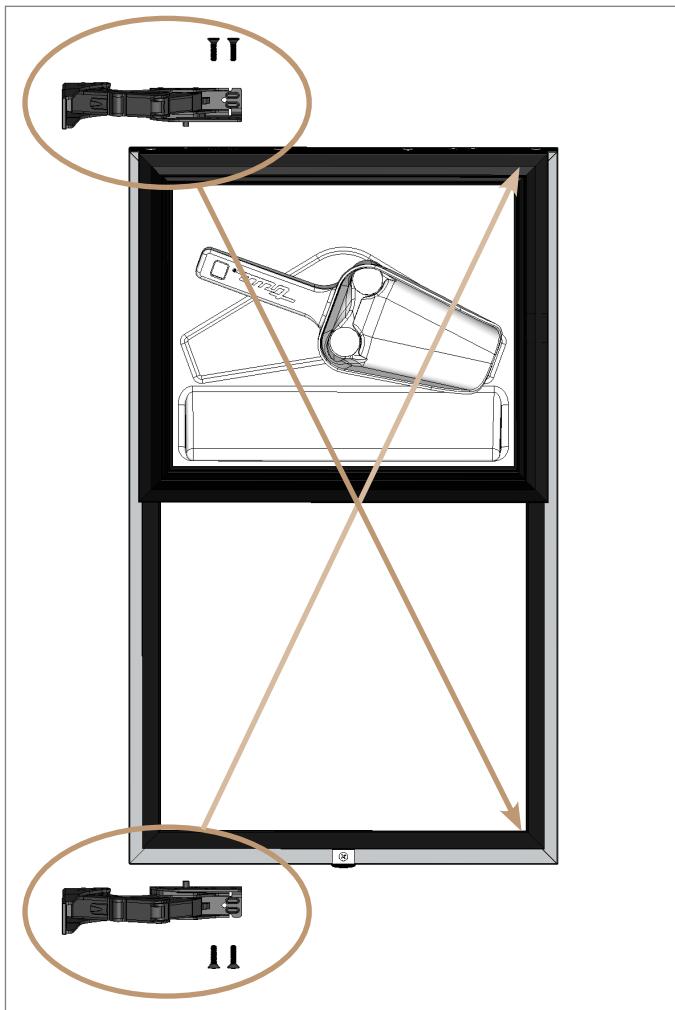

FIG. 6. Switch the top and bottom hinge assemblies with each other.
7. Install the bottom hinge at the top and the top hinge on the bottom. See figs. 6 and 7.